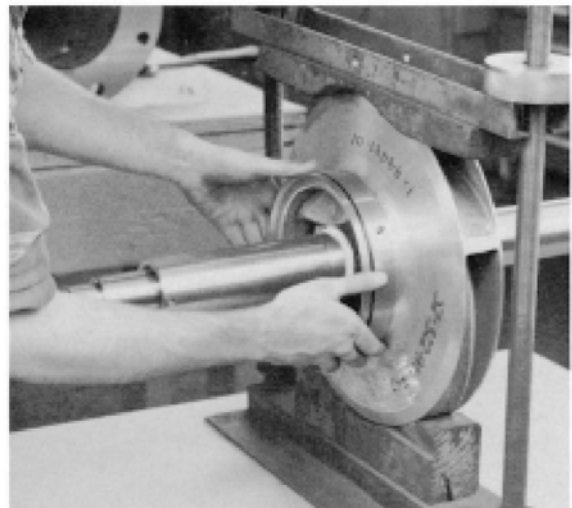

FIGURE 23 – INSTALLING RINGS
8. Lubricate and roll an O-ring (3-914-2) into the groove in each casing ring (3-003-9) and slide the casing rings over the impeller (See Figure 23).